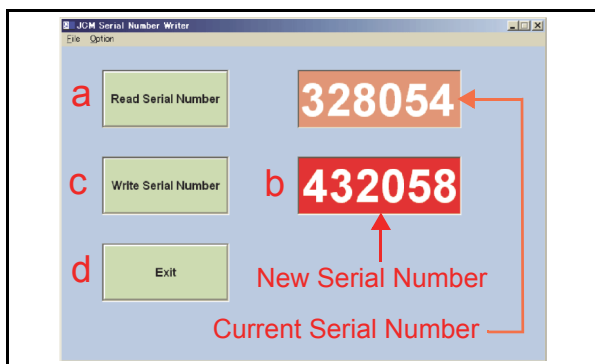

Figure 6-9 JCM Serial Number Writer Screen
3. Mouse-Click on the Read Serial Number Screen Button (See Figure 6-9 **a**) and the current Unit's Serial Number will be displayed in the Text Box next to the Button.
4. Enter a new 6-digit Serial Number in the input Text Box next to the Write Serial Number Screen Button (See Figure 6-9 **b**). Example: If the Unit's Serial Number is 03050438058, enter the last 6-
5. Mouse-click on the Write Serial Number Screen Button (See Figure 6-9 **c**) to begin writing a new Serial Number into the Taiko™ Memory.
7. Mouse-click on the Exit Screen Button (See Figure 6-9 **d**) to close the Screen.